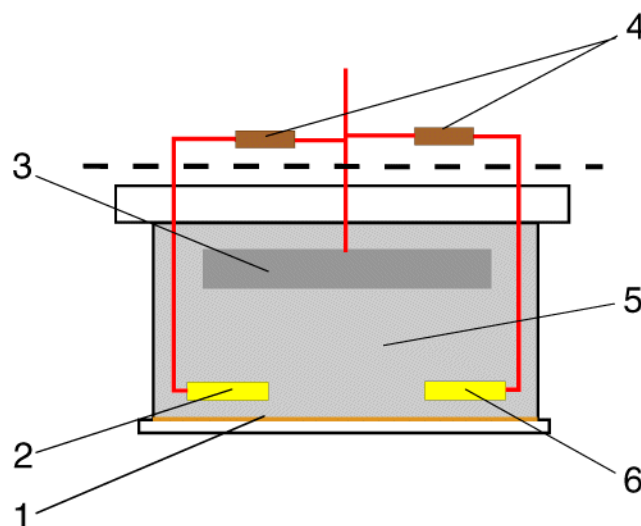

Figure 36 O2 sensor, for legend see Table 15
**Table 15** Legend to Figure 36